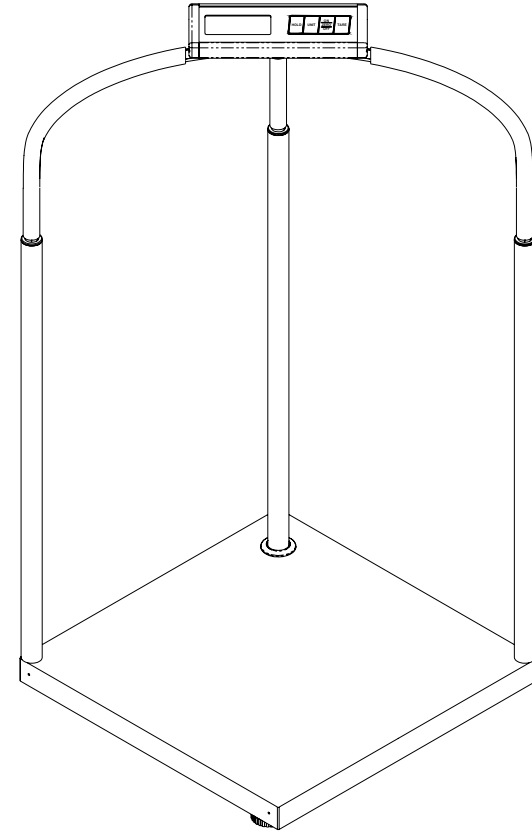

Figure 5
**5. Insert the three bars of indicator head into the three sticks. Put the middle bar of indicator head into the stick which between the two sides of sticks firstly. And then put the other two bars into the sticks separately (See figure 4). The fabricating is completed. See figure 5.**